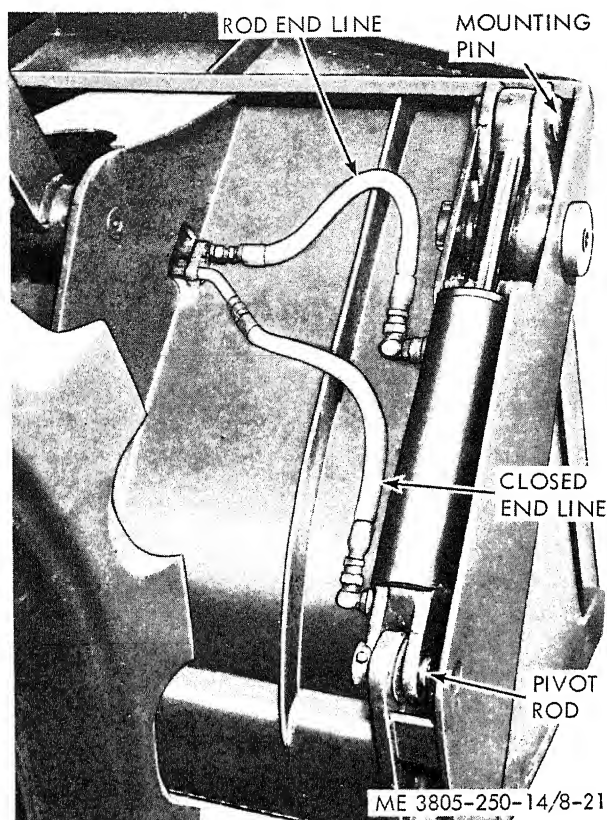

Figure 8-21. Clam cylinder, removal and installation.
*c. Clam Cylinder Removal.* Refer to figure 8-21.
(1) Wash the cylinder and its fittings to remove mud, dirt, and grease.
(2) Move the clam cylinder controls to relieve pressure in the circuit.
(3) Disconnect the line to the cylinder rod end.